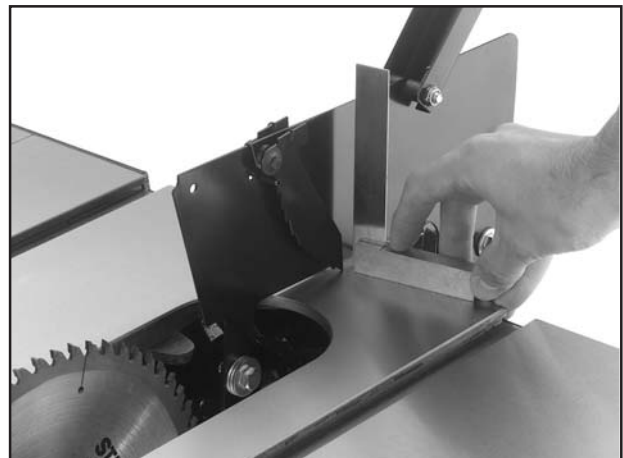

Figure 29. Blade splitter square to table.
2. Set a machinist's square against the face of the blade splitter. Slightly rotate the rear bracket to adjust the face of the blade splitter perpendicular to the table top, as shown in **Figure 29**.